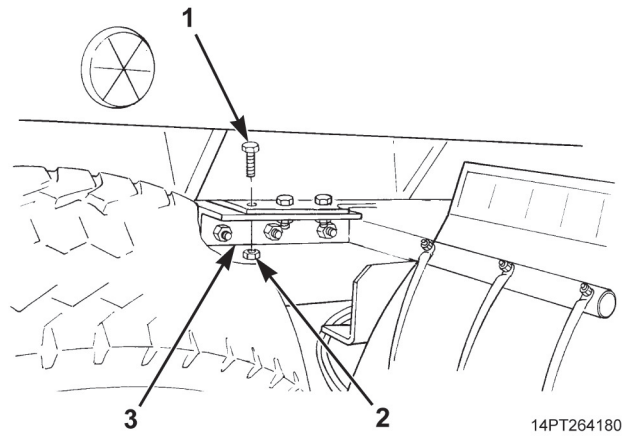

Figure 1. Angle Bracket Hardware Removal.
1. Remove six locknuts (Figure 1, Item 2) and screws (Figure 1, Item 1) from driver's side and passenger's side angle brackets (Figure 1, Item 3). Discard locknuts.